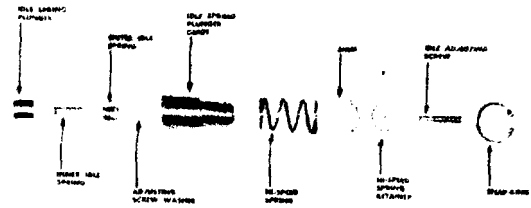

Figure 4-61. Spring pack assembly-standard governor
7. **STANDARD GOVERNOR:** a. The governor has one maximum-speed and two idle-speed springs. Maximum speed is changed by replacing the spring or by adding shims. Assemble as shown in Fig. 4-61. Final number of shims will be determined at pump test.
c. Slide the governor spring pack assembly into position. This assembly is held in place with a snap ring. Fig. 4-61 and 4-62.